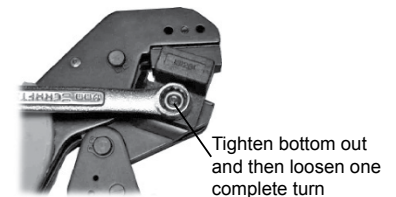

Figure 6
4. Place the locator, wavy washer and nut on the screw; in that order. (See Figure 6 & Figure 8)